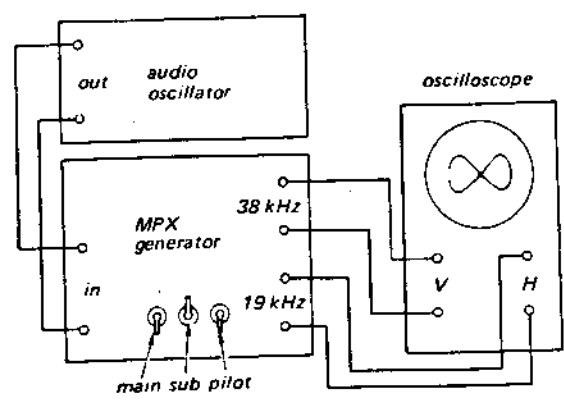

Fig. 3-6. MPX generator preadjustment
1. With the equipment connected as shown in Fig. 3-6, set the MPX and audio signal-generator's controls as follows: